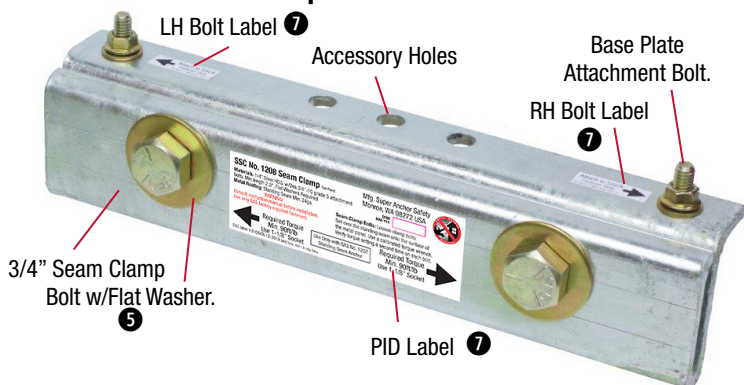

Fig.11
- Set seam clamps over metal panel seams and center the base plate as shown at Fig.11. Tighten 3/4 inch clamp bolts sufficiently to prevent movement leaving flange nuts loose. See 10.1 and Fig.13.